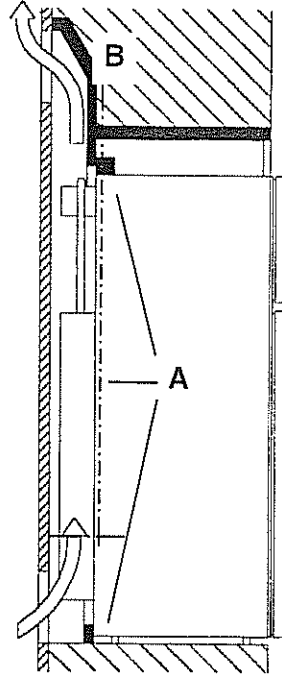
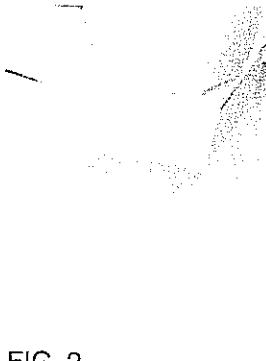

FIG. 1
FIG. 2
Insert lipped seals (A) into the installation recesses at the bottom and at each side (FIG 1, 2, 3).
In addition, discharge plate (B) with its lipped seal (A) must seal the refrigerator off from the living area (see FIG. 1,4).
The unit is ventilated through openings in the wall or roof of the vehicle. (Fig. 1 and Fig. 2). Fresh air enters at the bottom and the warmed air flows off through the upper ventilation grille (flue effect). The side walls of the ventilation shaft should be local to avoid the build up of condensation and drafts. The parts of the shaft walls, which are situated above and next to the exhaust for the combustion gases, must be made of non combustable material. The **upper** ventilation grille should be positioned as high as possible above condenser **(A) (observe minimum ventilation heights)**. The **lower** ventilation grille should be **flush with the floor of the vehicle**, allowing any gas leakages (heavier than air) to escape directly into the open air. If such an arrangement is not possible a hole must be provided by the manufacturer of the vehicle under the refrigerator (not close to the burner) so that any leaking LP gas can escape. This must have an effective area of at least 13cm2. It is desirable to fit the hole with wire mesh or similar, and an angle plate to protect it from stones, mud etc., the wire mesh must not reduce the effective area of 13cm2 (EN1949). **The ventilation grilles must have a free cross section of at least 400cm2.** Here it should be noted that protective insect nets behind the ventilation grilles can reduce the free cross section by up to 50%.